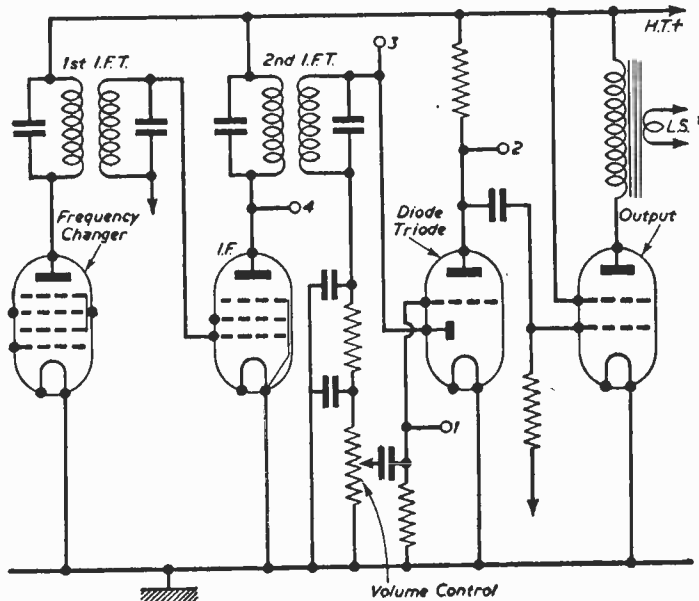

Fig. 2.—Obtaining audio and I.F. outputs from a receiver.
Fig. 2 shows stages in a typical battery portable or similar receiver. If a station is tuned in, an audio output will be available at point (1). Point (2) also gives an audio signal, at greater power. The usual volume control allows the signal strength to be adjusted.